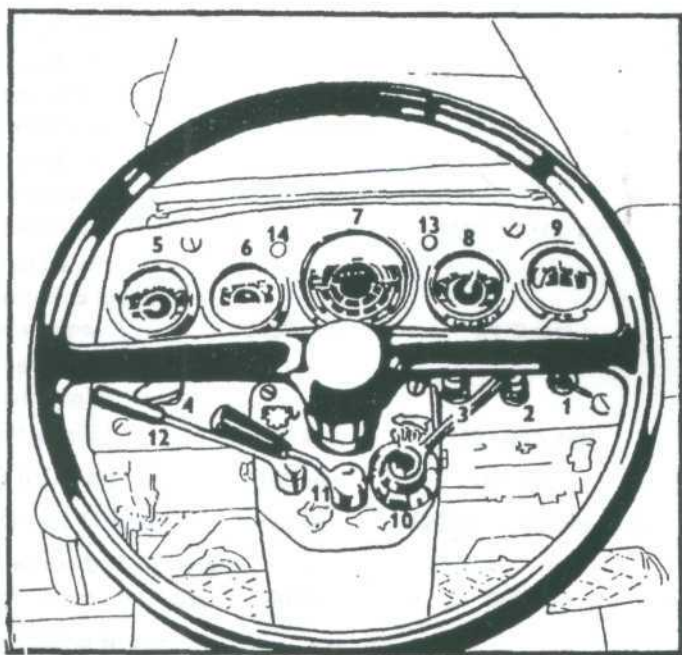

Fig. 1
— Switch box with key (Fig. 1/1)
— Dashboard illumination switch (Fig. 1/2)
— Starter push button (Fig. 1/3)
— Trafficator switch with electric horn push button (Fig. 1/4)
- Oil pressure gauge (Fig. 1/5) — a correct oil pressure varies within the range from 2 to 5.5 kp/sq. cm
- Water thermometer (Fig. 1/6) — operating temperature shall vary within the range from 80 to 95° C (overpressure radiator plug opens the cooling circuit at 106° to 111° C)
- Engine hour counter with speed indicator (Fig. 1/7)
- Air pressure (Fig. 1/8) — operating pressure 6 kp/sq. cm
- Ammeter (Fig. 1/9)
- Fuel delivery hand control lever (Fig. 1/10)
- Torque multiplier control lever (Fig. 1/11).
- PTO clutch control lever (Fig. 1/12) — engaging
- Air pressure pilot lamp is red and whenever the air pressure drops below 65% of the predetermined pressure it is switched on (only on Z 12011 and Z 12045) (Fig. 1/13).
- Pilot lamp of torque multiplier oil pressure is red and whenever the oil pressure drops below 8 kp/sq. cm it is switched on (Fig. 1/14) — Z 12011 and Z 12045 — optional